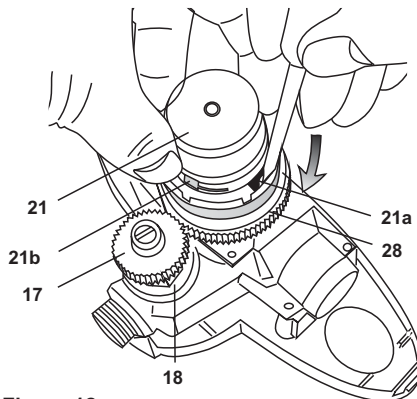

Figure 12
Remove the temperature handle carrier (21). To do this slide the black serrated lever (21a) in a clockwise direction with a screwdriver. Hold it there and pull off the handle carrier (21). Figure 12
Remove handles and wall plate or covers. Slide out the red "U" piece (21b Figure 12) and disconnect the handle carrier to expose the temperature control mechanism. Turn on the shower, position a thermometer in the running water and when the temperature settles, rotate the temperature control mechanism until 40 °C is achieved. Replace the handle carrier (21) ensuring the arrow is at 12 o'clock and refit the red "U" piece. Replace the covers and handles.